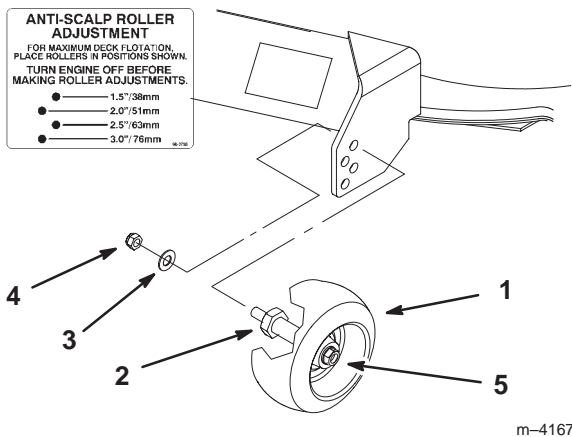

Figure 20
2. After adjusting the height-of-cut, remove the nut and washer while holding the stud with a wrench (Fig. 20).
Note: Do not remove the wheel nut and washer (Fig. 20).
3. Select a hole so that the gage wheel is positioned to the nearest corresponding height-of-cut desired (Fig. 20).
4. Reinstall the stud nut and washer (Fig. 20).